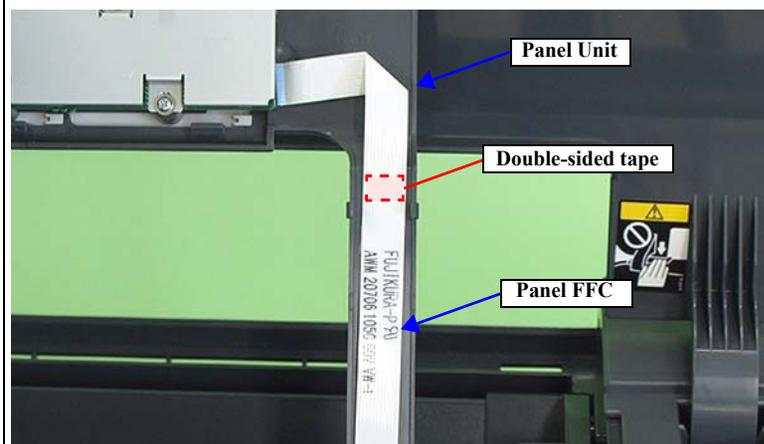

Figure 3-21. Securing the Panel FFC
- Route the Panel FFC correctly as shown in Figure 3-21.